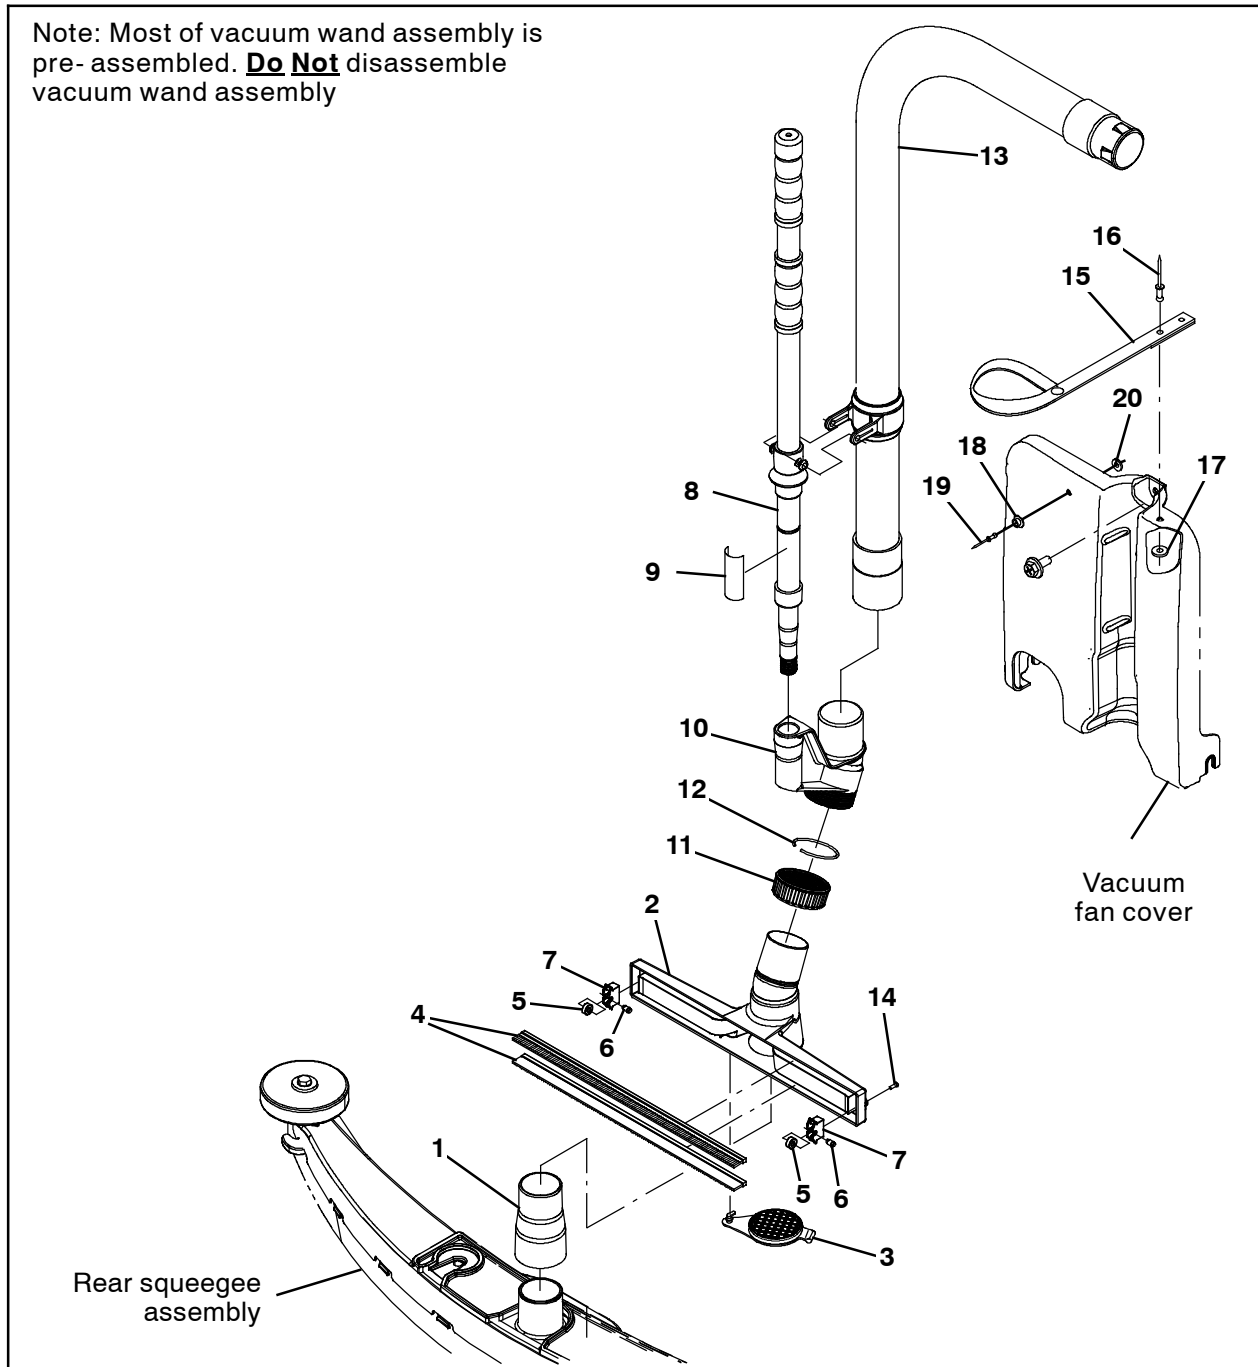

FIG. 3
4. Use a rivet (16) and flat washer (17) to install the retainer strap (15) onto the vacuum fan cover. (Fig. 3)
5. Use a rivet (19) and a flat washer (20) to install the snap (18) onto the vacuum fan cover. (Fig. 3)
6. Reinstall the vacuum fan cover onto the recovery tank. (Fig. 3)
7. Install the adapter cuff (1) onto the rear squeegee assembly. (Fig. 3)
8. Install the vacuum wand handle (8) onto the swivel adapter (10). (Fig. 3)
9. Install the vacuum wand hose (13) onto the vacuum wand handle (8) and swivel adapter (10). (Fig. 3)
10. Insert the loose end of the vacuum wand hose (13) into the recovery tank. (Fig. 3)
11. If necessary, move the port cover (3) from over the hole in the wand (2). (Fig. 3)
12. Install the vacuum wand assembly onto the adapter cuff (1) installed on the rear squeegee assembly and insert the vacuum hose into the vacuum hose recess in the recovery tank. (Fig. 3 / Fig. 4)
13. Snap the retainer strap (15) onto the vacuum fan cover (21) to secure the vacuum wand assembly to the machine. (Fig. 3 / Fig. 4)